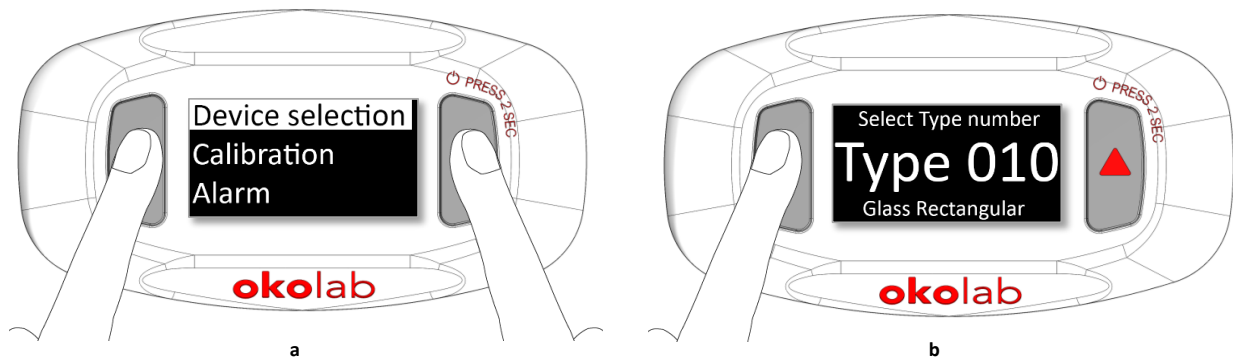

Figure 13. Device selection (a) and Device selection submenu (b).
2. Press UP & DOWN buttons at the same time for 1 second to enter the *Device selection* submenu (see Figure 13 a).
3. Use UP or DOWN button to scroll the Type number list (see Figure 13 b).